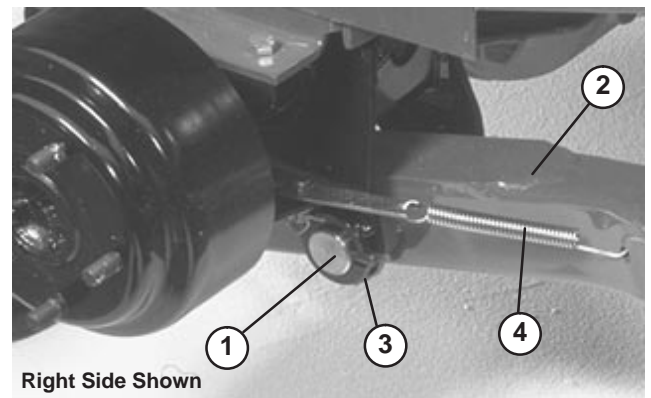

Figure 1
6. Mount frame mount to pivot bracket with a large pivot pin and cotter pin (Fig. 1). Grease fitting to be positioned downward.